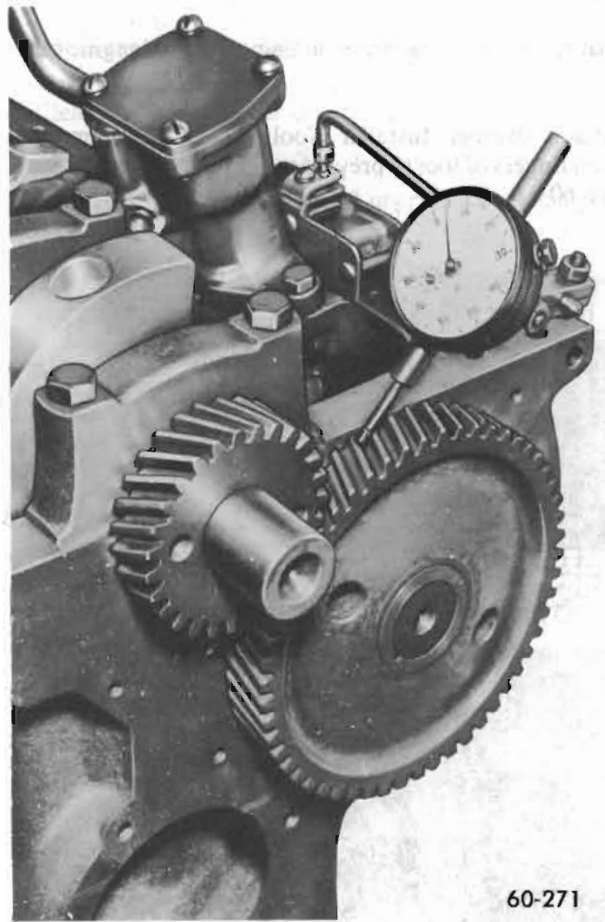

Figure 60-36--Checking Timing Gear Backlash
5. Check the backlash between the timing gear teeth with a dial indicator. The backlash should not be less than .004" nor more than .006". See Figure 60-36.